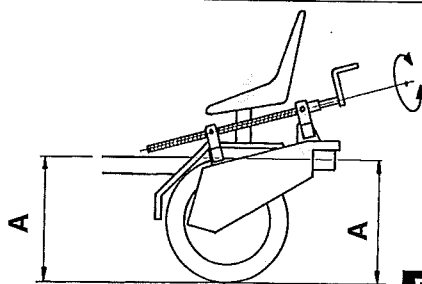

FIG. 11
19.1 - Use the drive wheel adjustment device (fig. 11) to set the **transplant units to a horizontal position in relation to the ground** (fig. 11.A).